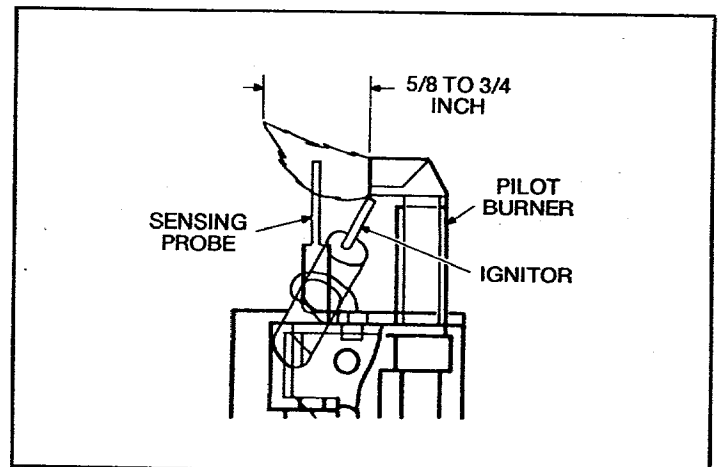

Figure 10 - Pilot Burner Flame
- e. Visually check the pilot flame (Figure 10). The flame should be 5/8 to 3/4 inch long to properly surround the sensing probe. To adjust the flame, remove the cap over the adjusting screw on the gas valve. Turn the screw counterclockwise to increase the flame and clockwise to decrease the flame. Replace the cap.